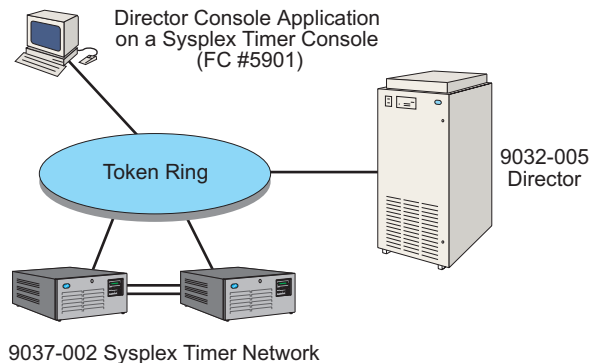

Figure 1-5. Director Console Application on a Sysplex Timer Console
- The IBM PC supplied with the 9037-002 Sysplex Timer. This platform provides the hardware and software required to connect the PC to a Token-Ring LAN and perform Win-OS/2 administrative tasks. The Director Console application must be installed on the Console. This platform configuration is shown in Figure 1-5.